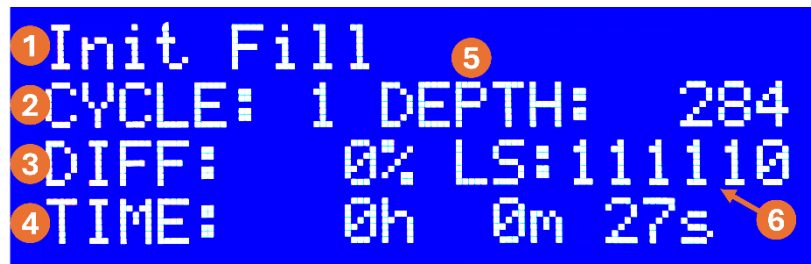

Figure 3-10 Standard Test Screen
After the user initiates a test, the system will automatically run through a full percolation test with minimal user input. Throughout the test, the LCD will show the standard test screen shown in Figure 3-10.
6. **Level Switch Status:** Current status of each of the level switches in the level sensor assembly, in order from bottom to top (75mm, 100m, 125mm, 150mm, 250mm, 300mm). If it shows 1, the switch is currently triggered (indicating that the water depth is above that switch). Figure 3-10 is indicating that all switches are triggered other than the 300mm switch, which aligns with the calibrated depth of 284mm.